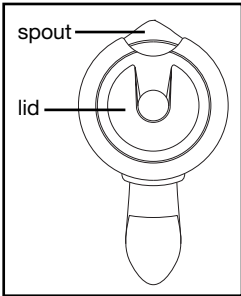

Fig. 7
7. Place the carafe lid on the carafe so that the opening on the lid points towards the pouring spout of the carafe (fig. 7). Place the carafe on the drip tray as shown in fig. 1.